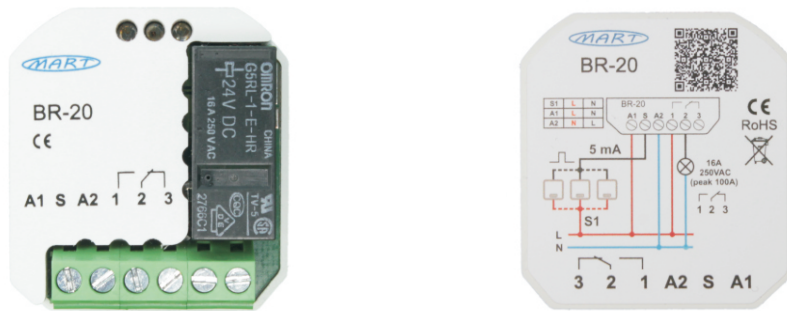

Fig. 1. View of the BR-20 BISTABLE RELAY at the front and rear.
On the back of the BR-20 BISTABLE RELAY, there is an exemplary connection diagram and a QR code with a detailed manual (Fig. 1).
7. A schematic diagram of the operation of the BISTABLE RELAY BR-20 is shown in Fig. 1.